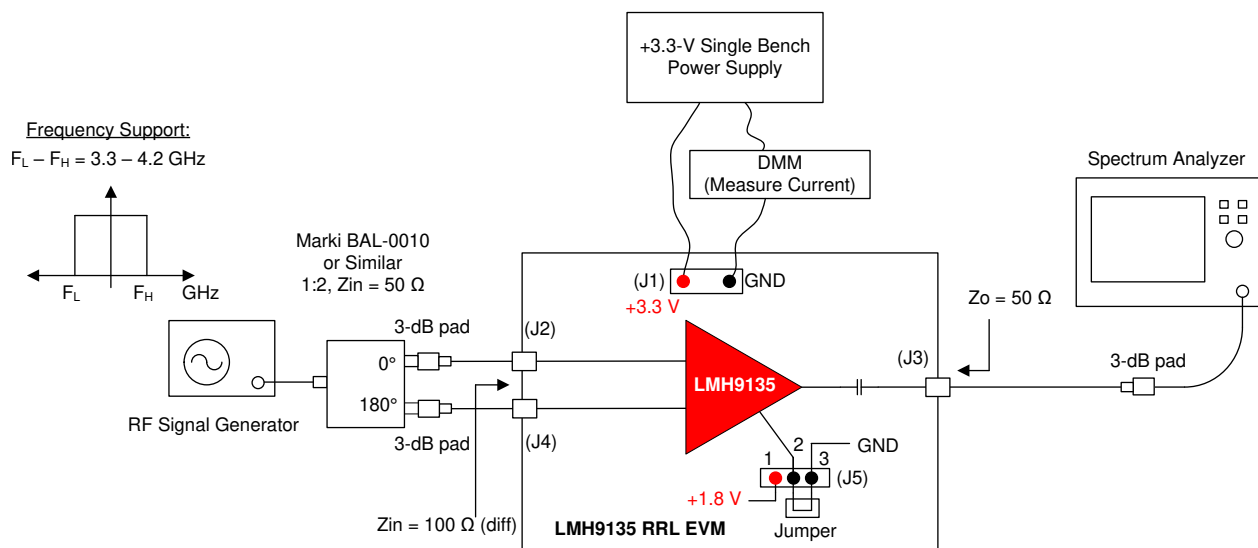

Figure 3-1. Single-Tone Setup for Gain and Output P1dB (1-dB Compression Point)
1. The input to the EVM is differential. Differential signal is generated from the single-ended output of the signal generator using an external passive balun such as shown in Figure 3-1. Use of at least 3-dB attenuator pads are recommended at the differential ports of the balun for better matching with the board.
4. When measuring the EVM for single-tone distortion products, TI recommends using an RF band pass filter (not shown in Figure 3-1) between the signal source and the balun.